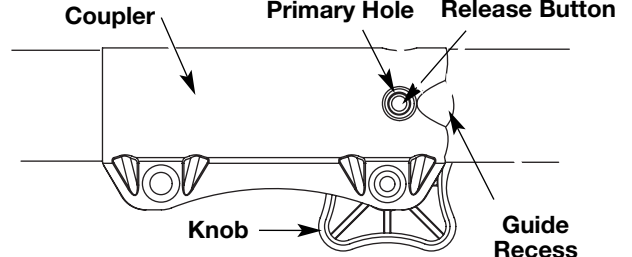
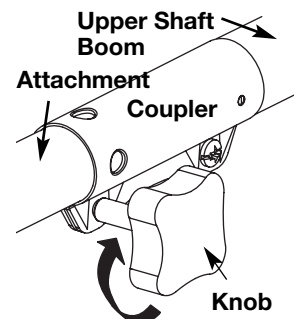

Fig. 15
Fig. 16
3. While firmly holding the attachment, push it straight into the coupler until the release button (Fig. 15) snaps into the primary hole (Fig. 15). The primary hole is on the opposite side of the coupler from the knob (Fig. 15). Align the release button with the Guide Recess (Fig. 15) to help installation.
4. Turn the knob clockwise to tighten (Fig. 16).
CAUTION: Lock the release button in the primary hole (Fig. 15) and securely tighten the knob before operating this unit.
3. Press and hold the release button (Fig. 15).
4. While firmly holding the upper shaft boom (Fig. 16), pull the attachment out of the coupler.
CAUTION: Before operating this unit, be sure that the release button is fully snapped into the primary hole (Fig. 15), and that the knob (Fig. 16) is securely tightened.